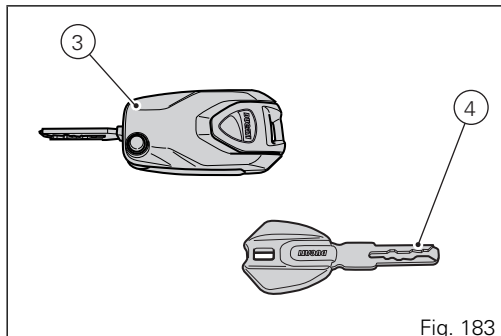

Fig. 183
Key-On can be performed by pressing button (6) on the handlebar and with the presence of the active key (3, Fig. 183).
Key-Off can be performed by pressing the button (6) on the handlebar. It can also be performed without the key (3, Fig. 183) only if motorcycle speed is equal to zero.
Key-On can be performed by pressing button (7) on the Hands free unit (1, Fig. 179) and with the presence of the active key (3, Fig. 183).
Key-Off can be performed by pressing button (7) on the Hands free lock (1, Fig. 179), also without the key (3, Fig. 183).
Key-On can be performed by pressing the grey button (6) on the handlebar and with the presence of the passive key (4, Fig. 183).
Key-Off can be performed by pressing the grey button (6) on the handlebar. It can also be performed without the key (4, Fig. 183) only if motorcycle speed is equal to zero.
Key-On can be performed by pressing button (7) on the Hands free lock and with the presence of the passive key (4, Fig. 183).
Key-Off can be performed by pressing button (7) on the Hands free lock (1, Fig. 179), also without the key (4, Fig. 183).
Key-On can be performed by pressing button (7) on the hands free lock (1, Fig. 179) without the presence of the keys (3, Fig. 183) and (4, Fig. 183) and entering the pin code on the instrument panel.